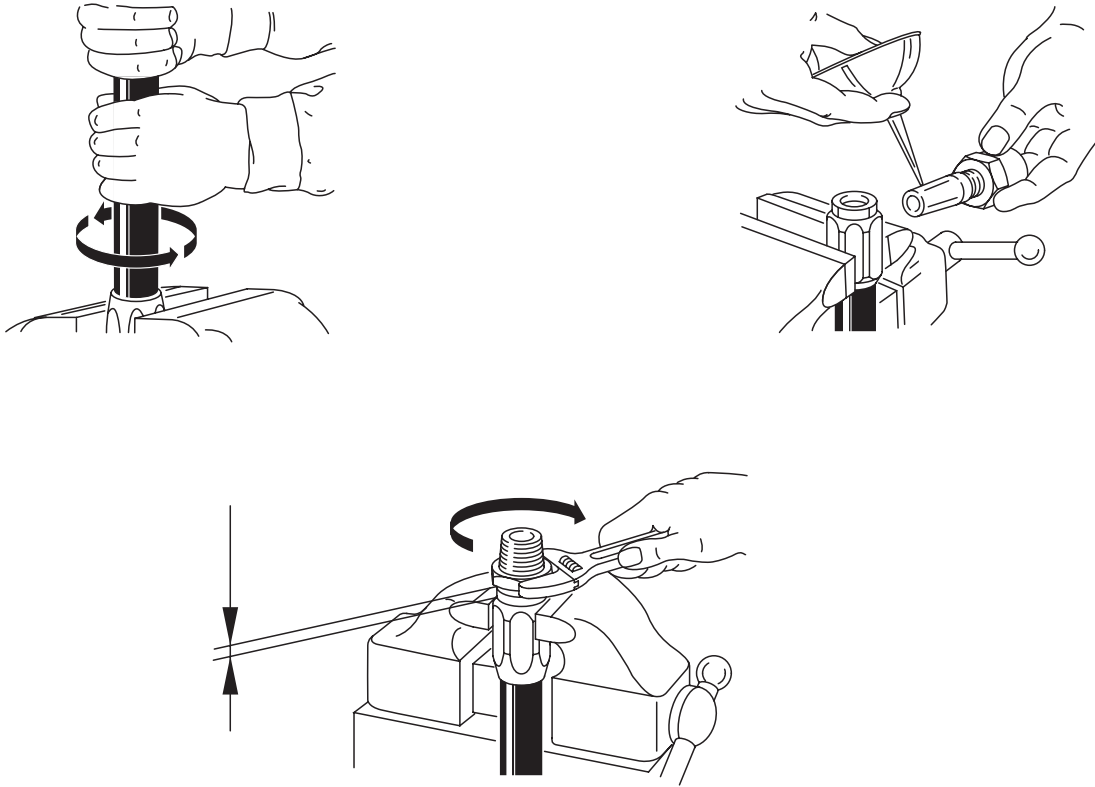

Fig. 404 Making the hose lines
- Do not strip the hose. Clamp the threaded fitting in place and screw the hose into the socket as far as it will go by turning it anti-clockwise, then turn it back (Fig. 404).
- Holding the nipple at the hexagon, screw it into the socket and the hose by turning it clockwise until there is a gap of approx. 1.0 to 1.5 mm between the hexagon and the socket. Do not tighten it (Fig. 404).